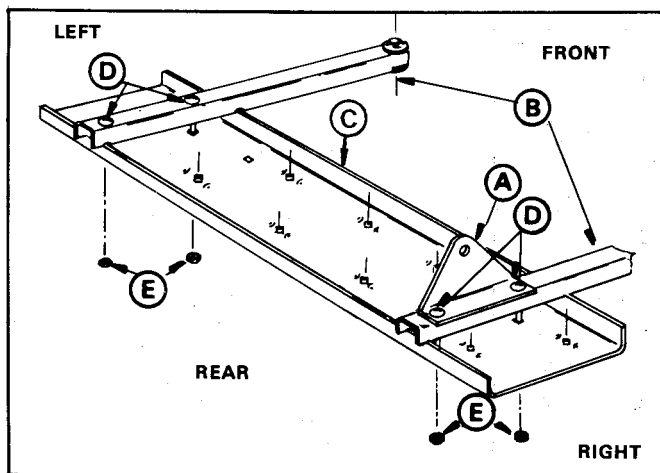

FIGURE 1.
FIG. 1. Install the lift bracket (A) and the wheel supports (B) to the tine tray (C), using four $\frac{1}{4}$ " x $2\frac{1}{2}$ " carriage bolts (D), and secure with hex lock nuts (E). Attach the lift bracket to the right wheel support as shown in Fig. 1. Tighten securely.